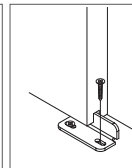

Figure 8
16. Install the second 1" Phillips screw (provided) using a drill with a Phillips bit (Figure 8).